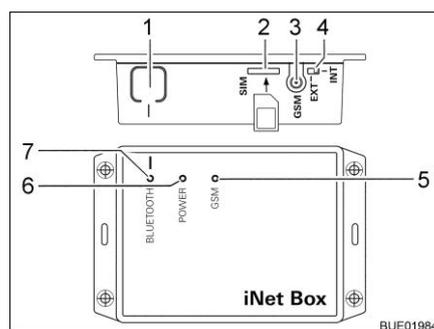

Fig. 127 Truma iNet-Box
- Press the BLUETOOTH button (Fig. 127,1) on the iNet-Box for 1 second. The Truma iNet-Box will be visible in the mobile terminal for approx. 2 minutes (name: "Truma iNet-Box"). During this period, the blue BLUETOOTH LED (Fig. 127,7) will be flashing.
- Carefully insert the mini SIM card with own telephone number and sufficient credit into the slot (Fig. 127,2) of the Truma iNet-Box as shown until it engages. The red GSM LED (Fig. 127,5) must be flashing continuously. If the red LED goes out after 20 seconds: Check mini SIM card.